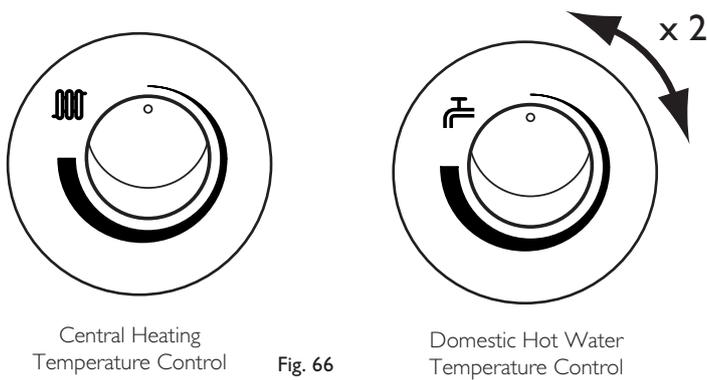

Fig. 66
5. Turn both temperature control knobs fully anticlockwise, then quickly turn the DHW temperature knob 1/4 clockwise twice and back fully anticlockwise (Fig. 66).